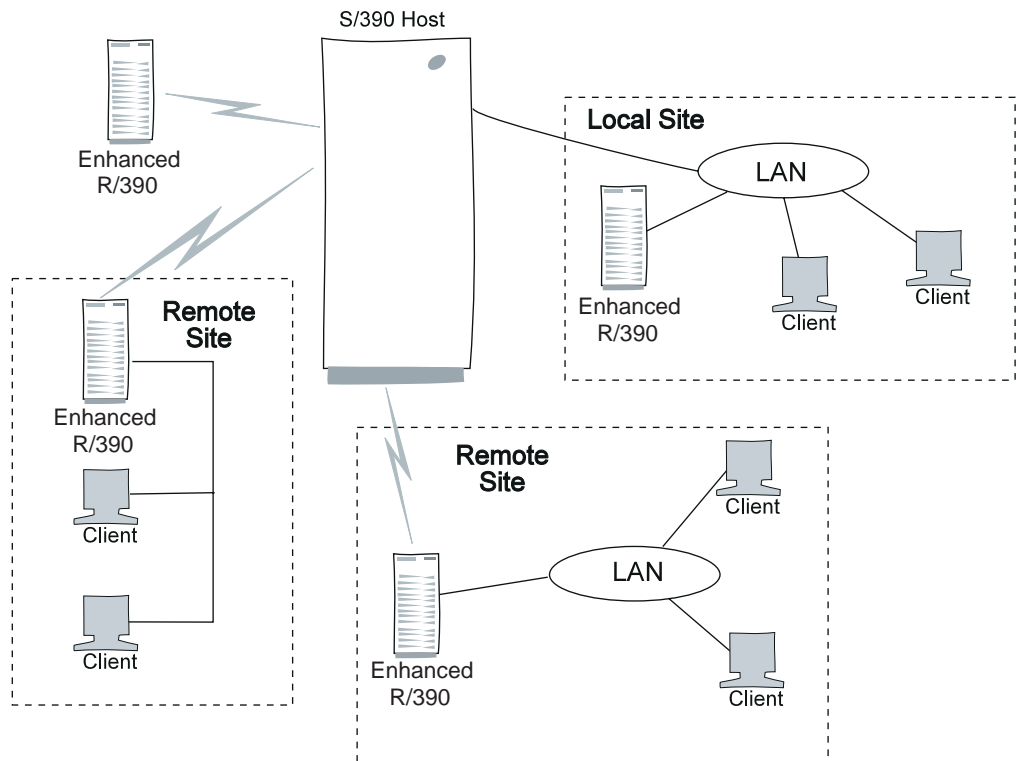

Figure 4. Enhanced R/390 in Distributed Environments
**Application Server.** Figure 4 on page 4 shows the Enhanced R/390 participating in a distributed environment as an application server. Application servers have a variety of client/server usages, such as a distributed server with additional or legacy applications, a distributed server with a single function of file serving or print serving, or a server packaged with a Solution Provider S/390 or UNIX application, to name a few. Ideal for a department or small business, the Enhanced R/390 is an application server that runs both AIX and S/390 applications unchanged. The Enhanced R/390 allows remote locations to run, some unattended, while serving the remote users with consistent business application and data across the enterprise. Solution providers can incorporate their applications on the Enhanced R/390 and widen their customer base by targeting previously unobtainable markets. The Enhanced R/390 application server brings specific workloads into LAN environments, solving business needs, resulting in improved productivity, local control, and reduced telecommunication costs.